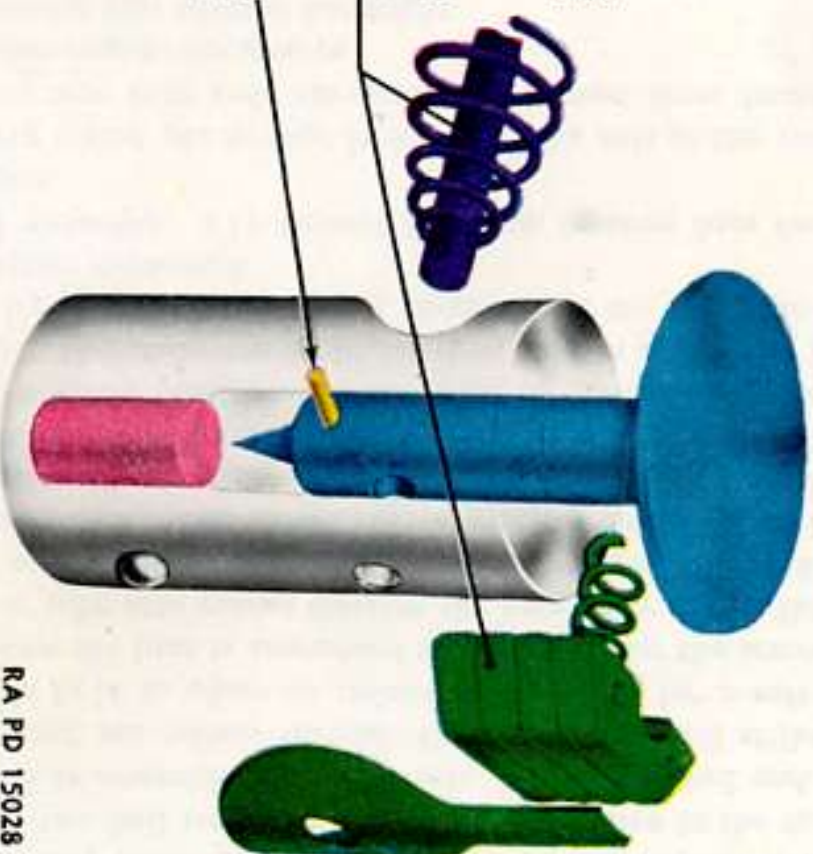

Figure 53. FUZE, bomb, M108 (nose) — method of arming.
c. **Function.** When the arming wire is withdrawn (fig. 53) the arming pin and the safety block are thrown clear by the action of their respective springs. The striker assembly is then held in place only by the shear wire. Upon impact the wire is sheared and the firing pin is driven into the primer detonator.
d. **Fuzing and unfuzing.** (1) Unseal fuze can, remove fuze from packing, and inspect.
(2) Turn safety cotter pin so that it is across the axis of the fuze.
(3) Insert fuze into fuze seat (previously removed from bomb) until the ball latches engage the groove.
(4) Screw fuze seat into adapter handtight.
(5) Thread arming wire through forward suspension lug of bomb.
(6) With the thumb on the head of the arming pin and a finger on the safety block plate, press on the head of the arming pin until the inner eyelet in the arming pin is exposed above the safety block plate. Pass 2 to 3 inches of the arming wire through the inner eyelet. Remove all kinks or burrs. No safety clip is necessary.